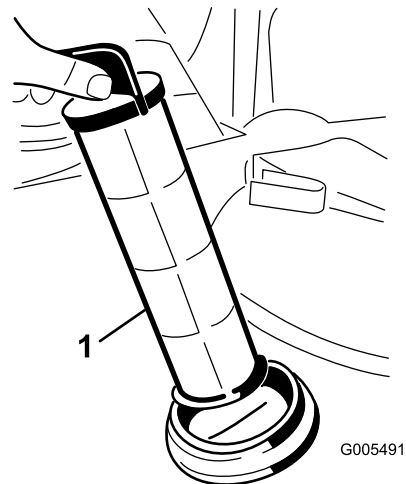

Figure 64
4. Pull the suction strainer out of the hole (Figure 64).